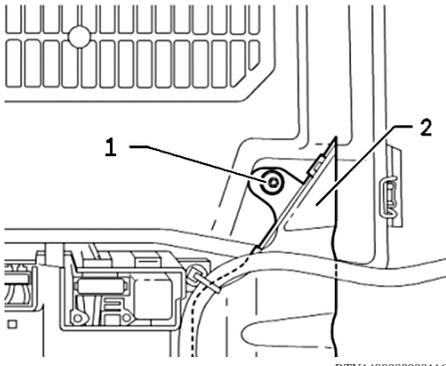

Fig. 4 Air duct removal
9. **On models equipped with rear A/C system,** remove bolt (1) and air duct (2), Fig. 4.
9. **On models equipped with rear A/C system,** install air duct (2) and bolt (1), Fig. 4.